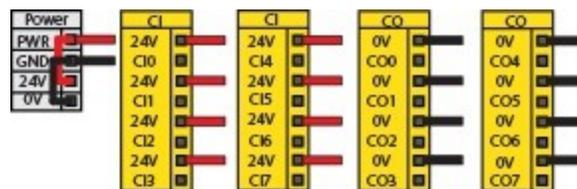

Fig. 5-3: Power supply wiring on CB3.1 Universal Robots controller.
2. Connect the 10-m high flex cable to the robot controller. Use any available 24V and 0V slots. See **Fig. 5-3**